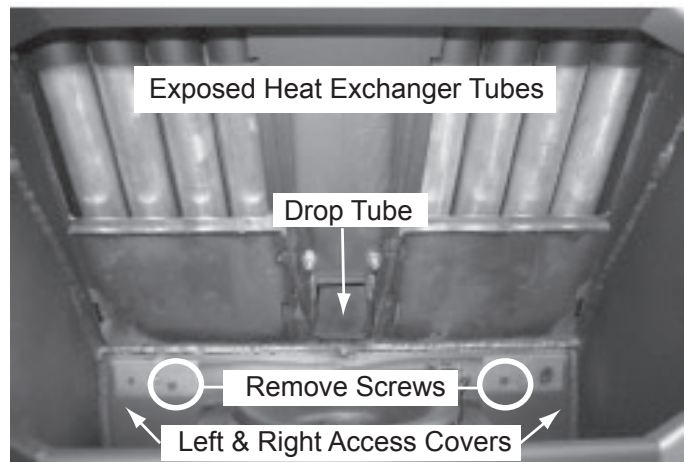

Figure 20.1 - Baffles Removed
- a. Use a Shop Vac to vacuum any fly ash and soot from the heat exchanger tubes and firebox area (**Figure 20.1**).
- There are 2 exhaust exits at the back of the firebox on the left and right side (Figure 20.1 on page 20 and 21.2).